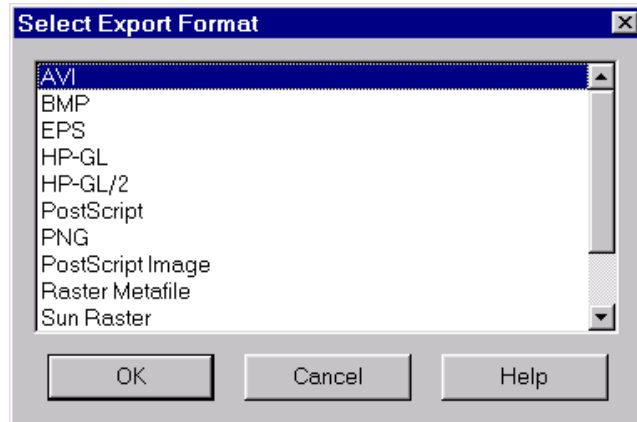

Figure 23-1. The Select Export Format dialog.
1. From the File menu, select Export. This calls up the Select Export Format dialog, shown in Figure 23-1.